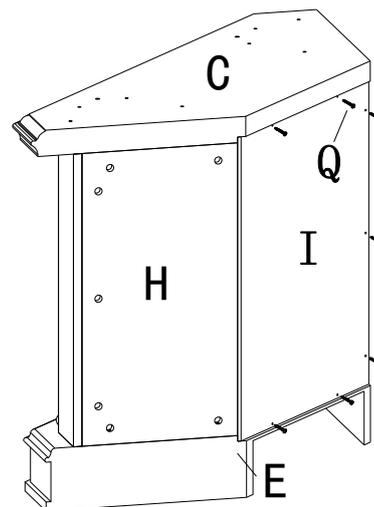

Figure 5
5. Connect Back Board (I), Middle Clapboard (C) and Base (E) with 10 screws(Q). (Figure 5)